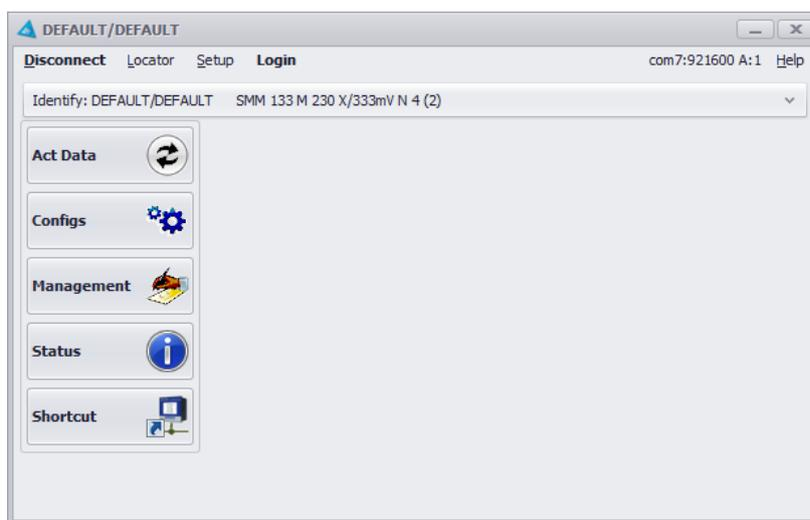

Figure 7: ENVIS.Daq application window with connected SMM 133 instrument.
5. Press *Connect* on menu or *ENTER*. The application attempts to connect to the specified device. If the connection is successful, it loads the settings stored in the device and displays a summary window (fig. 7).